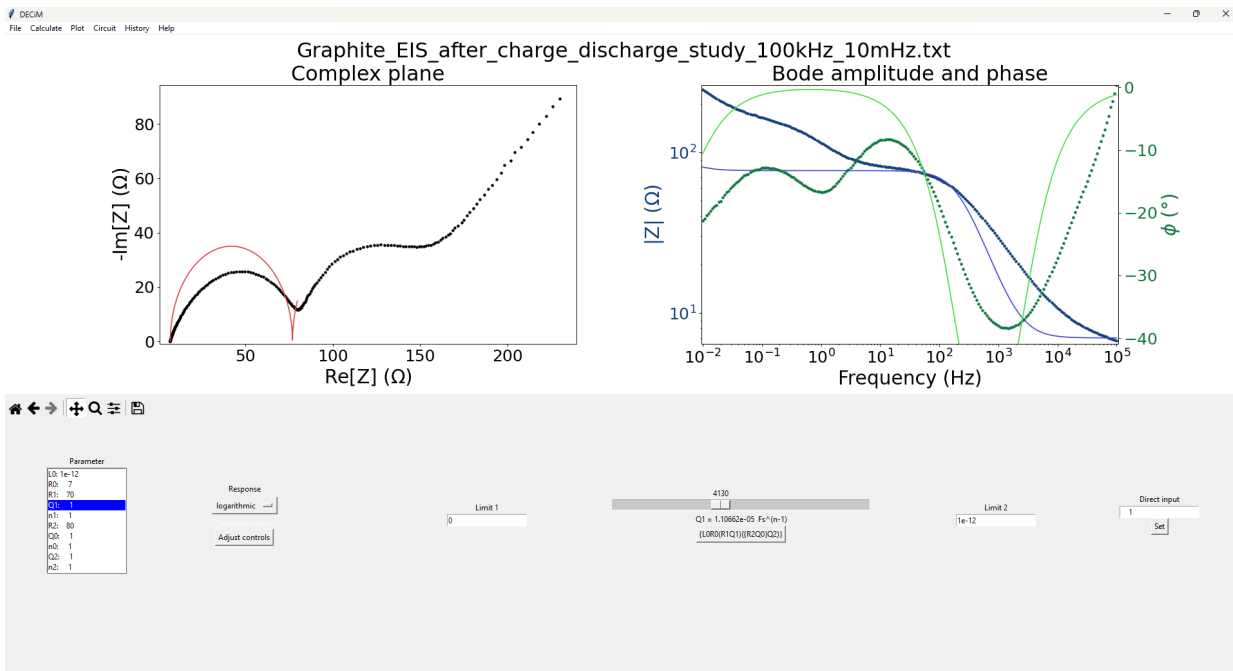

Figure 24: The result of the first few manual fitting steps for the C||Li half-cell.
- Now, the constant phase elements' parameters can be adjusted. First, adjust Q_1 by selecting it, pressing **Adjust controls** and moving the slider to the right. The high-frequency semicircle should now be fitted to some extent by the red line and the first shoulder of $|Z|$ should be touched by the model curve. The result should look like Figure 24, with $Q_1 = 1.1 \times 10^{-5}\ \text{F}$.